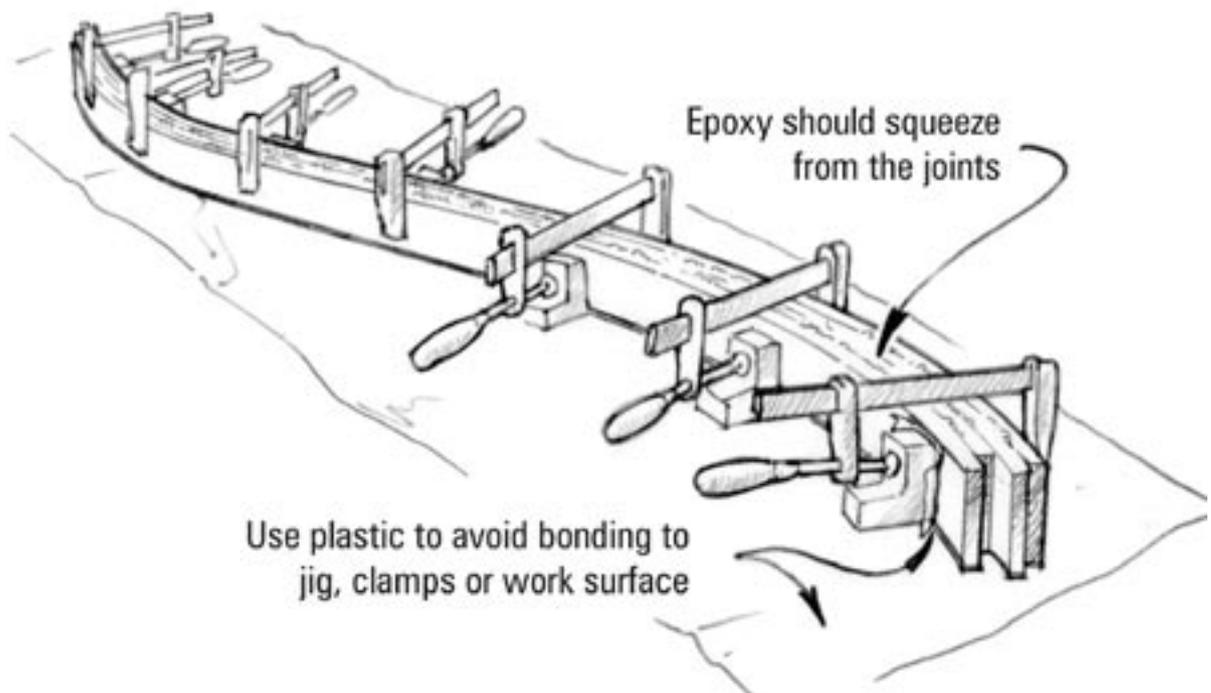

Figure 5-2 Clamp the appropriate number of coated strips into the jig. Trim the frame to size after the epoxy is fully cured.
4. Clamp the strips to the jig until the epoxy cures (*Figure 5-2*). Use clamps, wedges, staples or small nails to apply enough pressure to squeeze a small amount of epoxy from each joint.